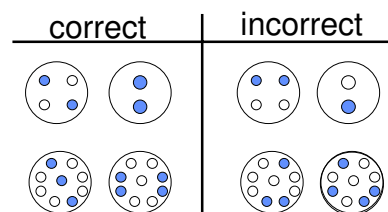

figure 4
5.2.5 For partial loads of swing-out rotating equipment tubes should also be symmetrically distributed with respect to the rotational axis of the swinging bucket. (see fig. 4).